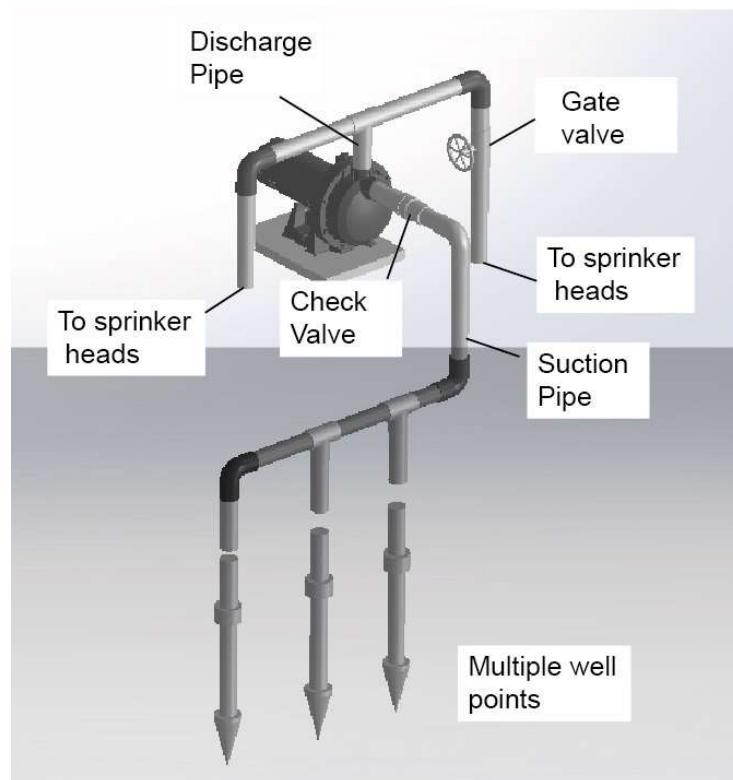

Figure 2: Driven Point Installation, Multiple Well Pointes
Step 1. Connect suction pipe to drive point (Fig.2). Keep horizontal pipe run as short as possible. Use Teflon tape on male pipe threads. Multiple well points may be necessary to provide sufficient water to pump.